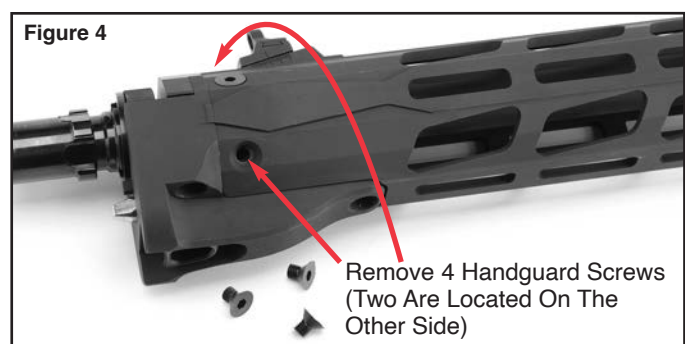

Figure 4
4. Using a 1/8" hex wrench, loosen and remove the four handguard screws by turning them counterclockwise. (See Figure 4.)